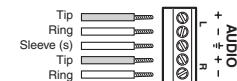

Figure 2-4 — Audio output connector wiring
③ **Audio output connector** — Plug the audio output device into this 5-pole captive screw connector. Wire the connector as shown in figure 2-4.